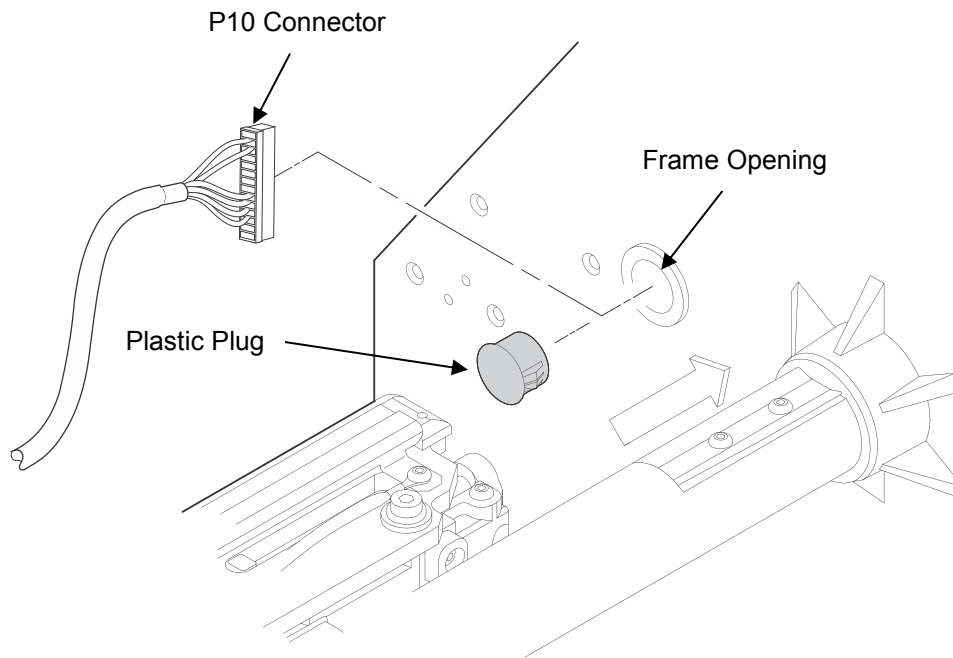

Figure 11 Routing the Power/Data Cable (T8)
7. Gently press the small wires of the P10 connector end of the power/data cable against the connector and route the connector through the frame opening (Figure 11).